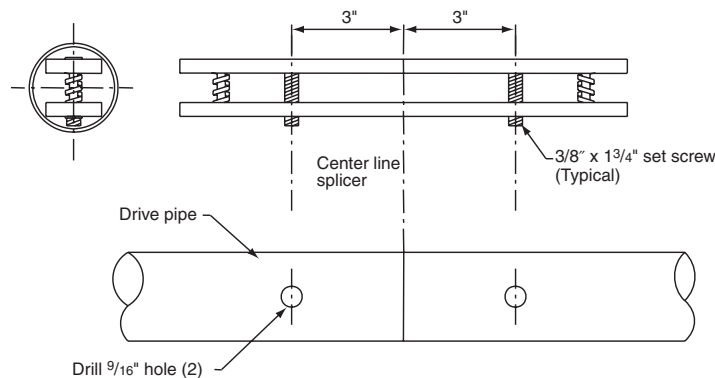

Figure 2
- ⑤ Using the project drawings, identify the 2⁵/₈" drive pipe section that attaches to the winch (normally the shortest section). Attach to winch by passing through output shafts, drilling and installing hardware as shown on drawings.
- ⑥ Raise the other drive pipe sections as indicated on project drawings. (Once the drive pipe is resting in the drive pipe support assemblies, slide the proper number of cable guide sleeves onto the pipe.)
- ⑦ Attach pipes together with drive pipe splicers to obtain one long continuous run of drive (See Fig. 2).
- ⑧ Operate the winch to determine that the drive pipe is rolling level. Make adjustments accordingly.
- ⑨ Slide the cable guide sleeves into their approximate location, which should correspond to the grommet spacings in the curtain.
- ⑩ Attach the wire rope cable to the cable guide sleeves and wrap cable around the drive pipe at least three revolutions in the same direction. Drop the loose end of the cable to the floor.